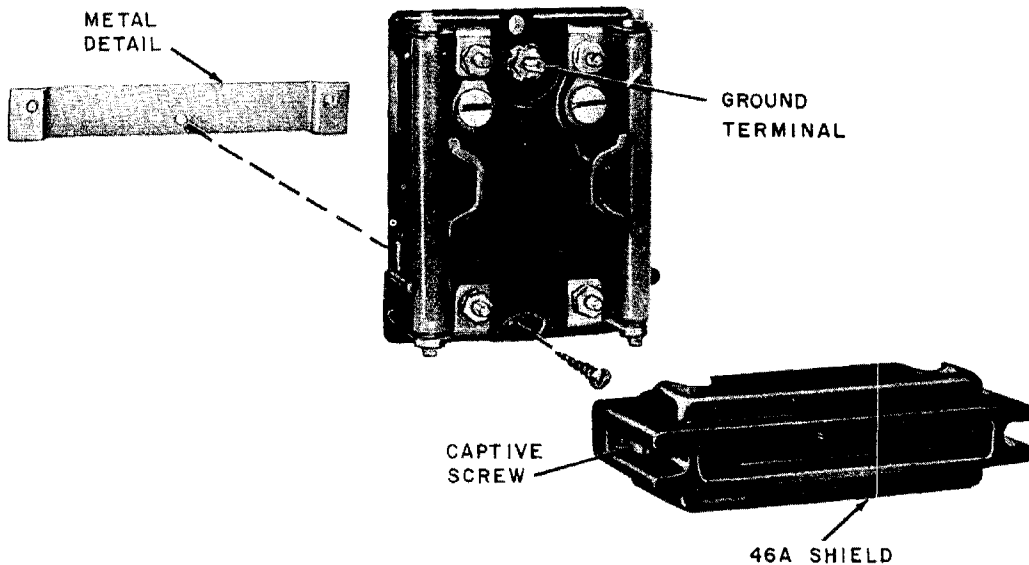

Fig. 16—Installation of 46A Shield
5.03 When fused protectors are installed in confined spaces such as protector cabinets provided by the customer, it is necessary to install a 46A Shield on the line side of the protector (Fig. 16). A metal detail is furnished with the shield and is placed between the protector and mounting surface. The shield is provided with two captive screws which fasten it to the metal detail. The shield is to prevent the highly ionized gases developed with the operation of a fuse from coming in contact with the line terminal of the protector.